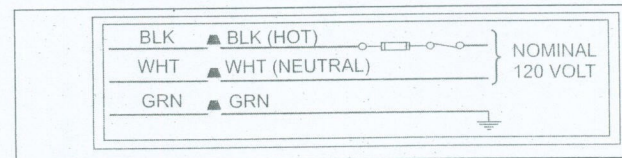

FIGURE 16: Line Wiring Connections
- The furnace's control system requires correct polarity of the power supply and a proper ground connection. Refer to Figure 16.